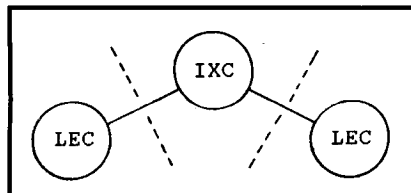

figure 1 Inter-LATA Calls
The telephone business is divided into two major segments: Local Exchange Carriers (LECs), and Inter-Exchange Carriers (IXCs). LECs are the local telephone companies (telco) and IXCs are the long distance companies. The U.S. telephone network is divided into geographic zones called Local Access and Transport Areas (LATAs), and telcos switch calls within the LATA. Calls between LATAs are handed off to IXC's and routed to other LATAs (see Figure 1). As the drive for competition
1. Remove the plastic lamp deflectors from the grooves on either side of the (3) lamps. Check to be sure that there is a silver foil piece behind each lamp, and that it is properly positioned in the corner of the shroud. It should look like Figure 1.